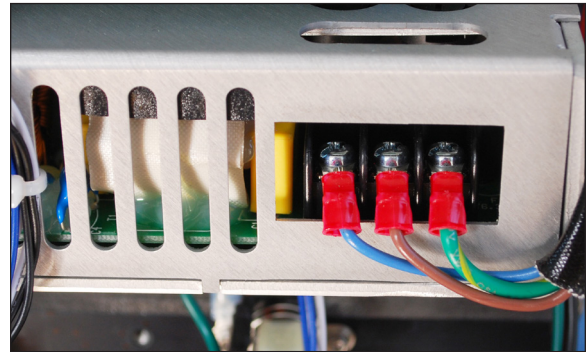

Figure 97 - Step 5 Disconnect harness from the power supply
5. Disconnect the power inlet wire harness from the power supply (Figure 97).